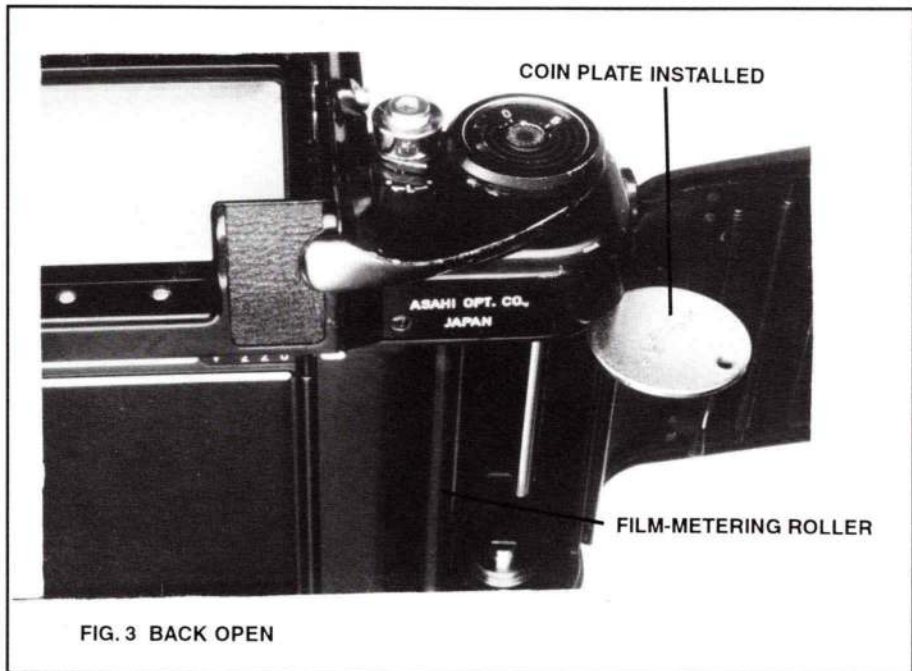

FIG. 3 BACK OPEN
1. Wedge in the reset actuator plate, Fig. 14, through the camera-body slot as shown in Fig. 3. Pentax uses a special *coin plate* (dealer item supplied with new cameras—see drawing below) to wedge in the reset actuator plate.
2. With the reset actuator plate pushed in, the film-metering roller will advance the counter dial. Turn the film-metering roller, Fig. 3, to advance the counter dial past the "1" position.